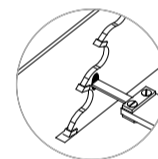

Fig 5b - Measure 1
- 5.2 Adjust the caliper depth stop to touch the blade body (not the tooth) at this mark. Zero the caliper display [Fig 5b].